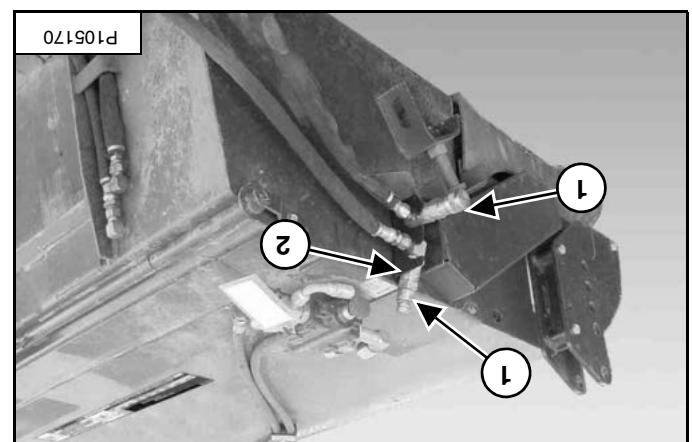

Figure 50
When the sweeper is not connected to the loader, install the hoses (item 1) into the hose hanger bracket (item 2) [Figure 50] (if equipped).